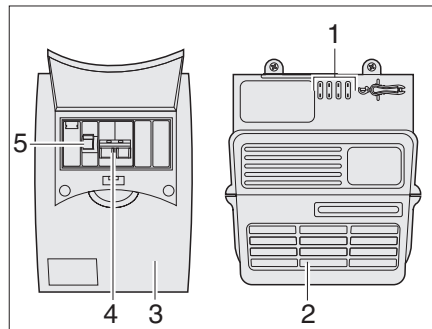

Fig. 90 Power pack and automatic circuit breaker
**Fuse box** The 230 V fuse box (Fig. 90,3) is mounted next to the power pack (Fig. 90,2).
The main fuse (Fig. 90,4) and a residual-current circuit-breaker (Fig. 90,5) are located in the fuse box (Fig. 90).
The residual current circuit-breaker (Fig. 90,5) measures the current flow of the current feed and return lines. If the two lines are equivalent, the residual-current circuit-breaker does not become active. If there is a difference between the lines the breaker interrupts the current flow immediately. This prevents dangerous electrical accidents.
- Switch the main switch (Fig. 90,4) upwards to the "ON" position.
- Switch the residual-current circuit-breaker (Fig. 90,5) upwards to the "ON" position.